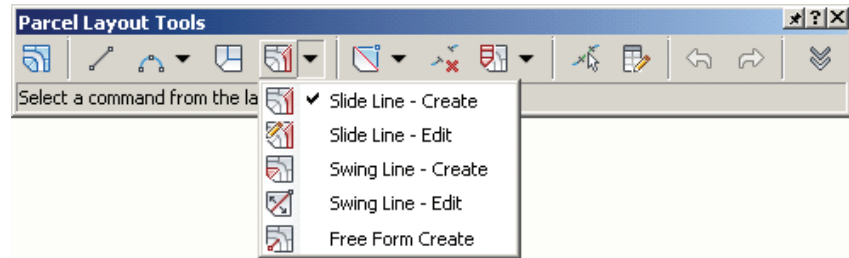

Figure 2–30
- The commands at the center of the toolbar, as shown in Figure 2–31, enable you to further edit parcel segments. These commands include inserting or deleting PIs (points of intersection), deleting parcel segments, or creating or dissolving parcel unions.